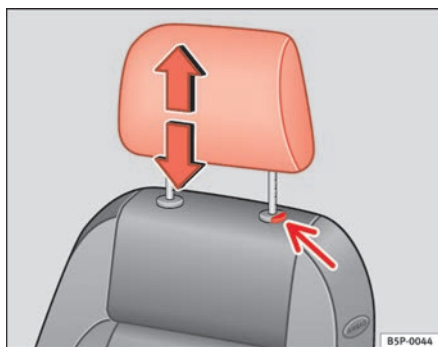

Fig. 92 Adjusting and removing the head restraints
- Press the button ⇒ fig. 92 (arrow).